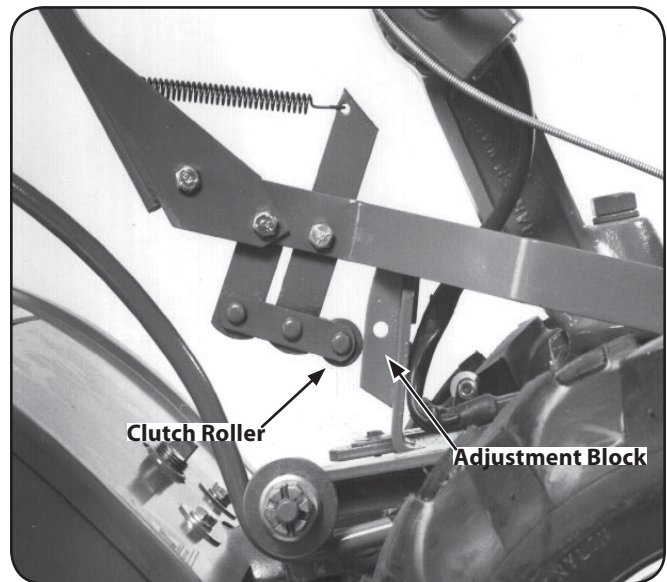

Figure 3-12
8. To test Reverse, lift and hold the lever all the way up in the Reverse position, then let it go. The lever should automatically return to the Neutral position. See Fig. 3-12. If not, do not use the tiller. See your local authorized dealer or call the TROYBILT Technical Service Department for instructions.